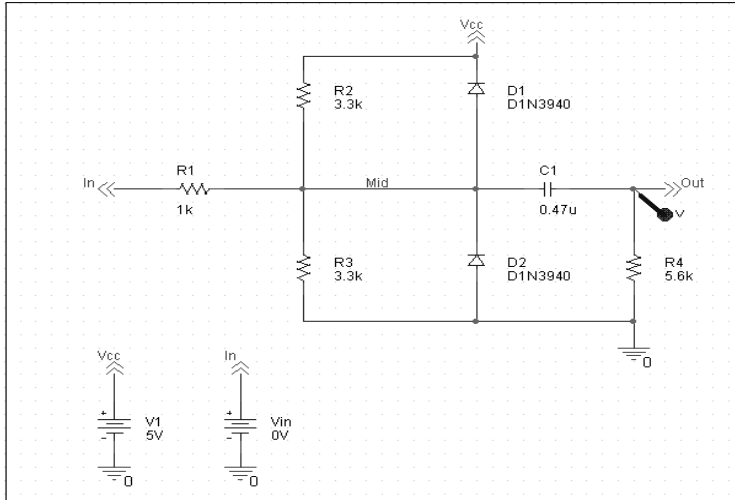

Figure 8 Clipper circuit with voltage marker on net Out.
- 2 Click to place a marker on net Out, as shown in Figure 8.